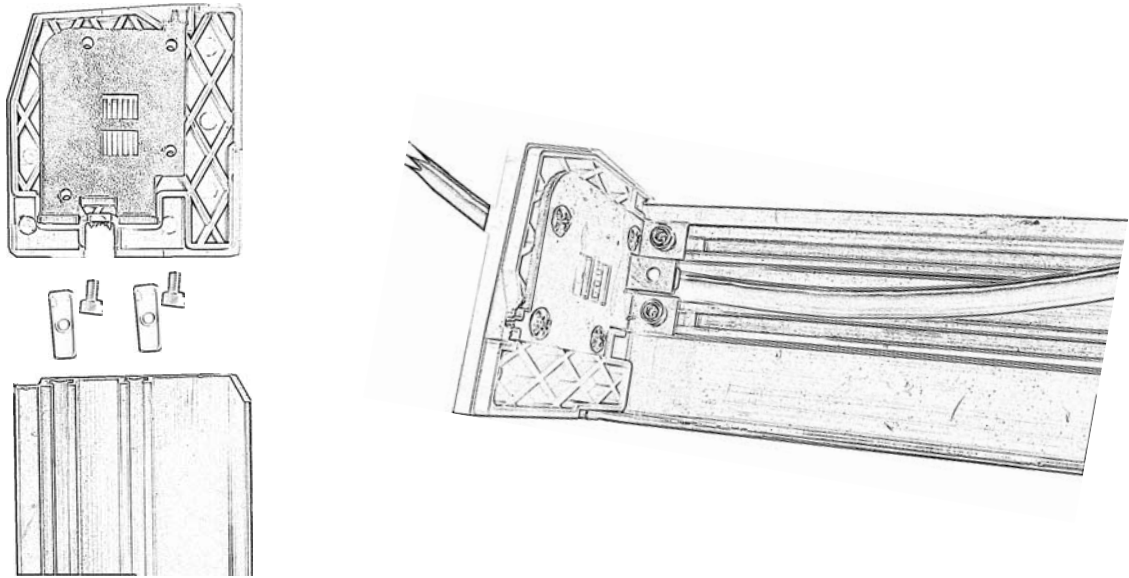

Figure 26: Secure AC cable on end cap and track
2. To insert, loosen the nuts and push the sliders into the two tracks in the base (Figure 26). You may need to use a hammer to gently tap the end caps into position.